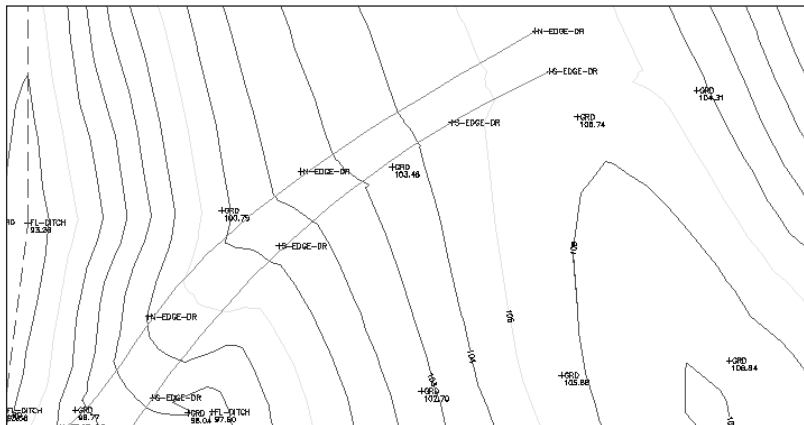

Figure 16-13: The topographical site map with a gravel road created by using the SPLINE command
3. If necessary, use ZOOM Window to zoom in to the area shown in Figure 16-13.